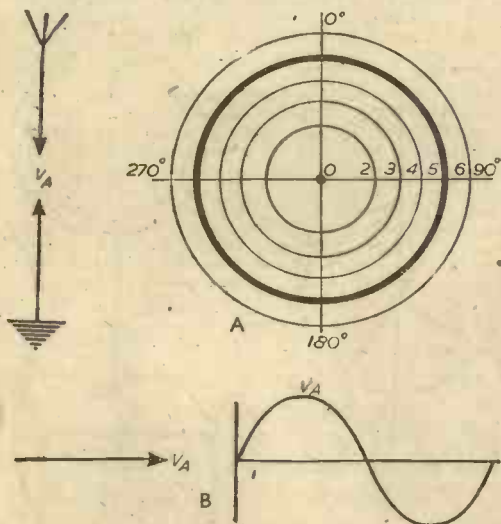

Fig. 96.—Polar diagram, vector and waveform of a straight aerial.
To facilitate the investigation of the directional properties of an aerial, a polar diagram may be used. The polar diagram shows the intensity of the received signal in suitable units (usually microvolts per metre $\mu\text{V p.m.}$) for any direction around the aerial. Fig. 96 (A) shows the horizontal polar diagram of a straight aerial; notice that the signal strength is shown on a scale formed by concentric circles, the centre being zero and also representing the aerial position, direction being indicated in degrees around the aerial. It indicates that if we move a transmitter, which is radiating a signal of constant strength along a path equidistant from the receiver's aerial we shall receive the same signal strength no matter from what direction the radiation is transmitted; i.e., a straight aerial possesses no directional properties. Fig. 96 (B) shows the waveforms and vectors for the straight aerial.